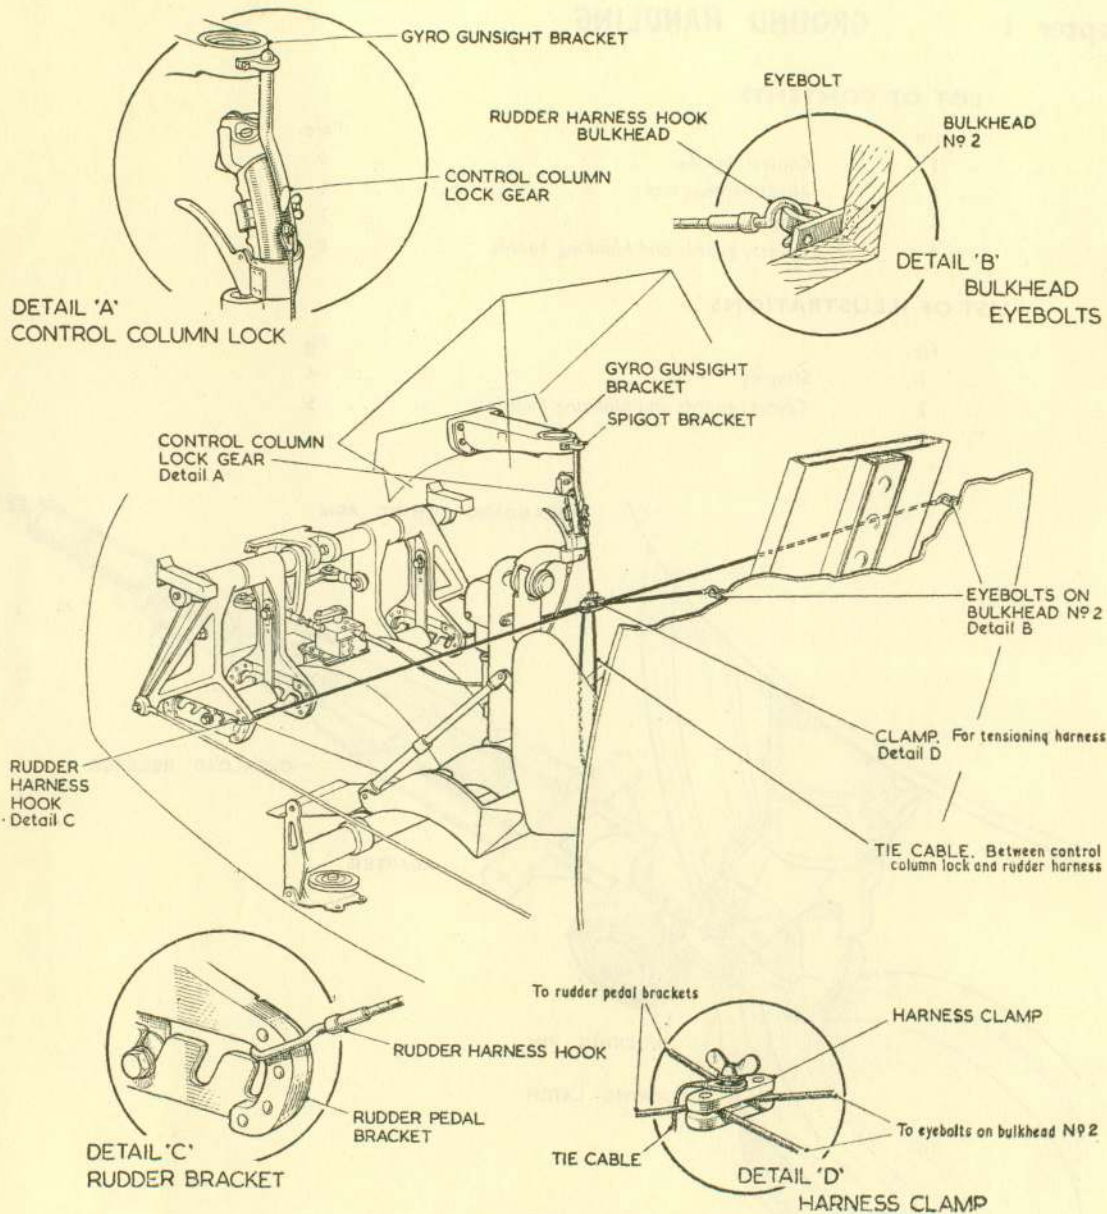

Fig. 2. Cabin control locks
5. The control column and rudder pedals may be locked to the fuselage structure as shown in fig. 2. The equipment is stowed in the cabin in a satchel beside the pilot's seat. External locking clamps (Sect. 2, Chap. 4) are provided for the ailerons only and are fitted between the inboard end of the aileron and the main plane.